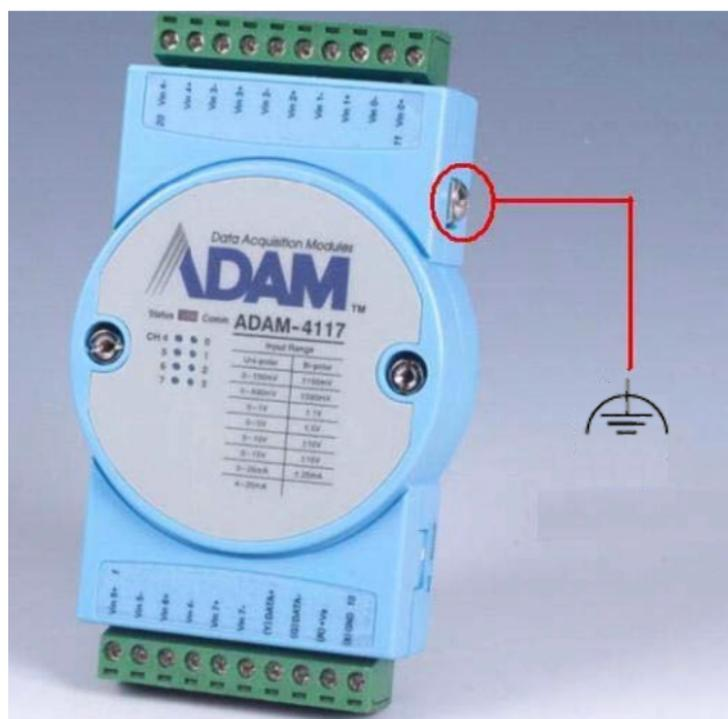

Figure 2.3 Ground Connector on an ADAM-4117
2. Power the ADAM module on while turning the switch to "initial" (see Figure 2-3)